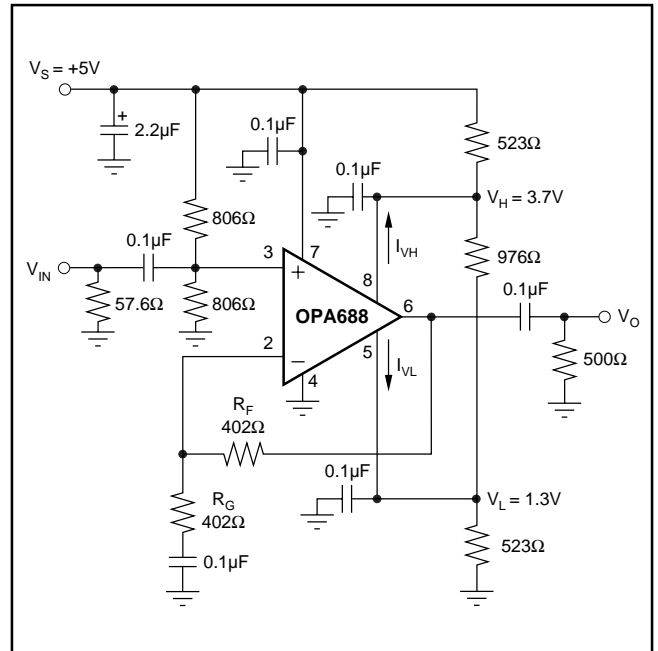

FIGURE 2. AC-Coupled, Single Supply Amplifier.
NOTES: (1) Junction Temperature = Ambient Temperature for low temperature limit and 25°C guaranteed specifications. Junction Temperature = Ambient Temperature + 23°C at high temperature limit guaranteed specifications. (2) TEST LEVELS: (A) 100% tested at 25°C. Over temperature limits by characterization and simulation. (B) Limits set by characterization and simulation. (C) Typical value for information only. (3) Current is considered positive out of node. (4) CMIR tested as < 3dB degradation from minimum CMRR at specified limits. (5)  $I_{VH}$  ( $V_H$  bias current) is negative, and  $I_{VL}$  ( $V_L$  bias current) is positive, under these conditions. See Note 3, Figures 2, and Figure 8. (6) Limiter feedthrough is the ratio of the output magnitude to the sinewave added to  $V_H$  (or  $V_L$ ) when  $V_{IN} = 0$ . (7)  $V_H$  slew rate conditions are:  $V_{IN} = V_{CM} + 0.4V$ ,  $G = +2$ ,  $V_L = V_{CM} - 1.2V$ ,  $V_H =$  step between  $V_{CM} + 1.2V$  and  $V_{CM}$ .  $V_L$  slew rate conditions are similar. (8) Linearity Guardband is defined for an output sinusoid ( $f = 5MHz$ ,  $V_O = V_{CM} \pm 1V_{p-p}$ ) centered between the limiter levels ( $V_H$  and  $V_L$ ). It is the difference between the limiter level and the peak output voltage where SFDR decreases by 3dB (see Figure 8).
$G = +2$ ,  $R_F = 402\Omega$ ,  $R_L = 500\Omega$  tied to  $V_{CM} = 2.5V$ ,  $V_L = V_{CM} - 1.2V$ ,  $V_H = V_{CM} + 1.2V$ , (Figure 2 for AC performance only), unless otherwise noted.
Figure 2 shows an AC coupled, non-inverting gain amplifier for single supply operation. This circuit was used for AC characterization of the OPA688, with a 50Ω source, which
The OPA688 is nominally specified for operation using either ±5V supplies or a single +5V supply. The maximum specified total supply voltage of 12V allows reasonable tolerances on the supplies. Higher supply voltages can break down internal junctions, possibly leading to catastrophic failure. Single supply operation is possible as long as common mode voltage constraints are observed. The common mode input and output voltage specifications can be interpreted as a required headroom to the supply voltage. Observing this input and output headroom requirement will allow design of non-standard or single supply operation circuits. Figure 2 shows one approach to single-supply operation.
When the limiter voltages need to be within 2.1V of the supplies ( $V_L \leq -V_S + 2.1V$  or  $V_H \geq +V_S - 2.1V$ ), consider using low impedance buffers to set  $V_H$  and  $V_L$  to minimize errors due to bias current uncertainty. This will typically be the case for single supply operation ( $V_S = +5V$ ). Figure 2 runs 2.5mA through the resistive divider that sets  $V_H$  and  $V_L$ . This keeps errors due to  $I_{VH}$  and  $I_{VL} < \pm 1\%$  of the target limit voltages.